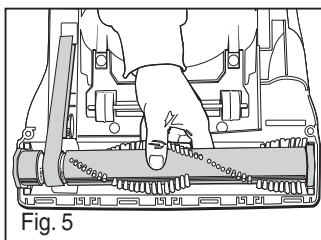

Fig. 5
- 6) Insert right end of brush roll. Make sure end cap fits into base (Fig. 5). **The new belt may appear to be loose. This is normal.**
- 5) Push large tube toward back, pull down and away from vacuum body (Fig. 5).